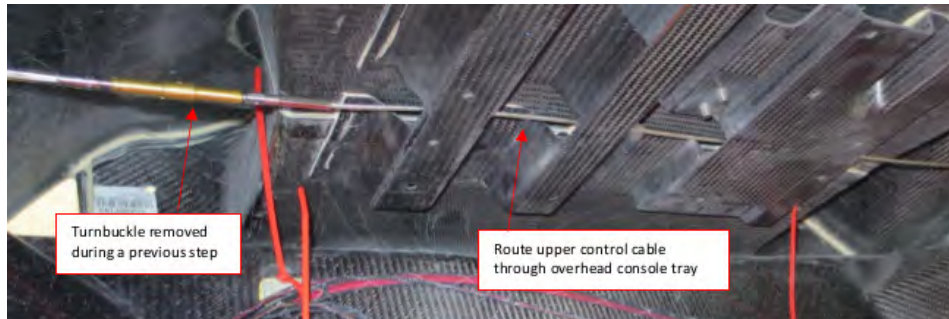

FIGURE 10-26
8. Route the upper control cable through the overhead console tray. (See Figure 10-26.) Careful not to damage any electrical wires while routing the cable. Snaking the cable is permissible.